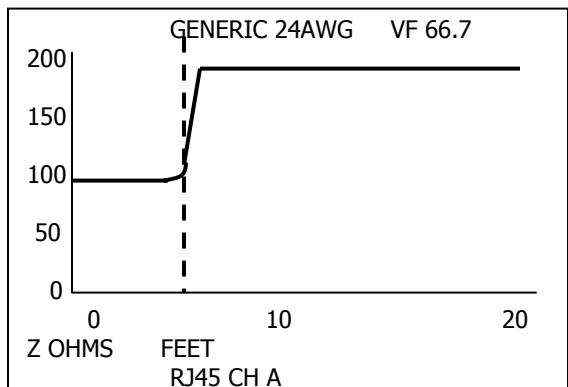

Figure 1
Step 4 – Press the ENTER key. This will return the TDR to the Measurement screen with Cursor 1 active. Cursor 1 is the only cursor required and cursor 2 is disabled. Also note that no cursor distance data is presented. This helps avoid pre-judging where the electrical end of the cable actually is. See Figure 1 for sample display.